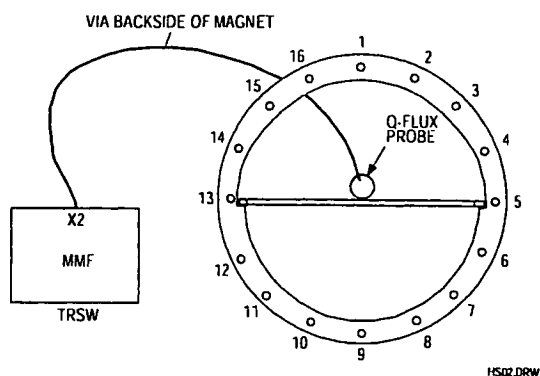

Figure 30 Connection of the Quadrature flux probe (Front View)
See Figure 30.
2. Disconnect both Tune cable MMFX2 and MMFX3 and connect a cable between tune A (MMFX2) and the quadrature flux probe. See Figure 30.